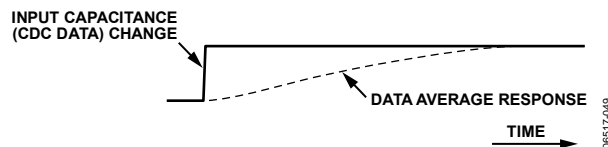

Figure 41. Data Average Response to Data Step Change
| 3210 | ThrSettling  | <p>Determines the settling time constant of the data average and thus the settling time of the adaptive thresholds. The response of the average to an input capacitance step change (that is, response to the change in the CDC output data) is an exponential settling curve characterized by the following equation:</p> $Average(N) = Average(0) + Change(1 - e^{-N / TimeConst})$ <p>where: Average(N) is the value of average N complete CDC conversion cycles after a step change on the input. Average(0) is the value before the step change. TimeConst can be selected in the range between 2 and 65,536 conversion cycle multiples, in steps of power of 2, by programming the ThrSettling bits.</p> $TimeConst = 2^{(ThrSettling + 1)}$ <p>See Figure 41.</p> |                           |      |                             |                           |   |   |   |   |   |   |     |   |   |   |   |   |   |   |   |   |